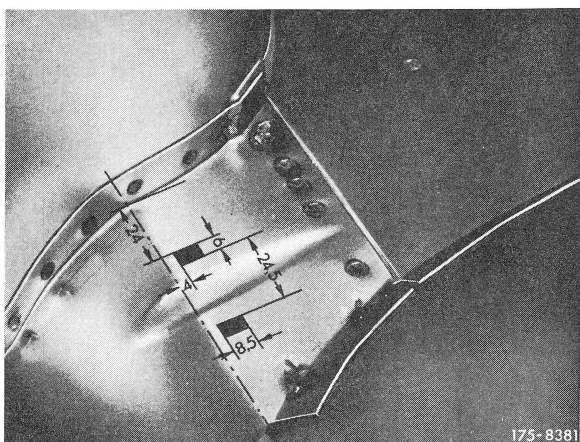

Fig. 1
- 2 Refinish two oblong holes for receiving holder for pull rod according to Fig. 1 in floor side member.